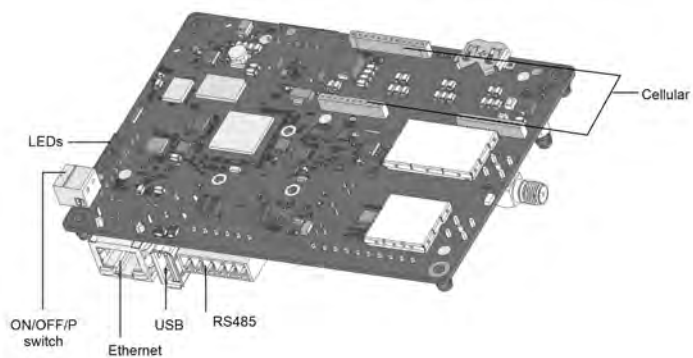

Figure 22: Communication board connectors
- e. Connect the Ethernet connector to the RJ45 port on the communication board (see Figure 22).